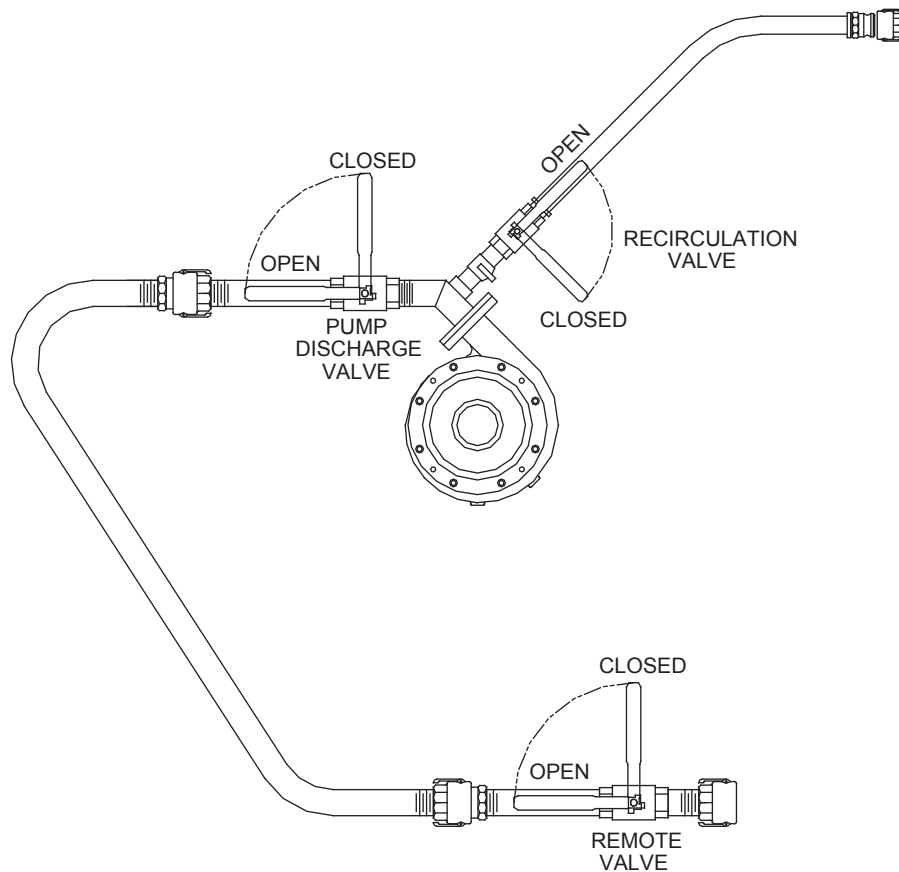

Figure 2 – Valve Operation (Standard and Hose Reel Only Units)
1. Discharge Hoses: Discharge hoses are available in 50 ft. (15.2 m) and 100 ft. (30.5 m) lengths up to a total of 150 ft. (45.7 m). Hose of a greater length may adversely affect the discharge distance and the discharge time of the HydroSeeder®. All connections are camlock, quick-operating fittings, including the connection at the end of the discharge piping. A nozzle is connected to the remote discharge valve which is connected to the working end of the discharge hose. Once everything is connected, the HydroSeeder® is ready to operate. Flow through the hose and the nozzle is controlled by the remote discharge valve. When using this valve, the recirculation valve on the HydroSeeder® MUST BE OPEN to allow excess material flow back into the tank (see Figure 2).
The base HydroSeeder® is equipped with three independently operated ball valves to control slurry flow. See Figure 2 below. The first valve is the recirculation valve. An open recirculation valve allows flow back into the tank. The second valve is the pump discharge valve. An open pump discharge valve allows slurry to flow through the discharge hose. The third valve, located at the end of the discharge hose, is the remote valve. An open remote valve allows discharge of the slurry onto the area being covered.